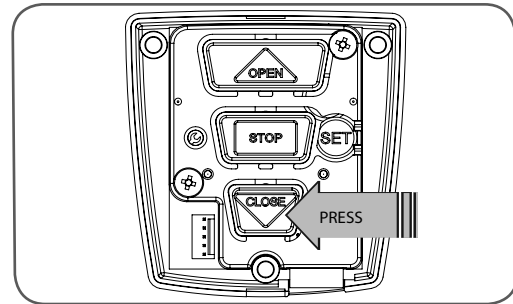

fig 09
2. Press and hold the CLOSE button (**Fig. 09**)- the shutter should start closing.